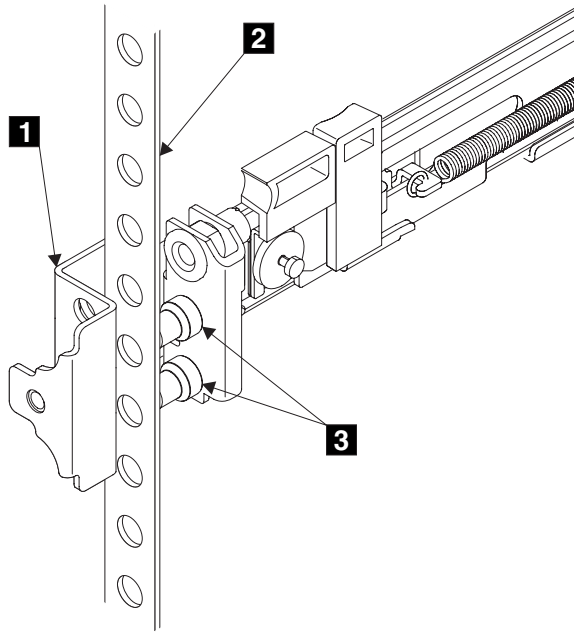

Figure 63. Installing the front end of the rail
6. Place the front end of the left rail in the rack cabinet. Align the top of the front bracket **1** (Figure 63 on page 90) with the required EIA marking that is on the rack.